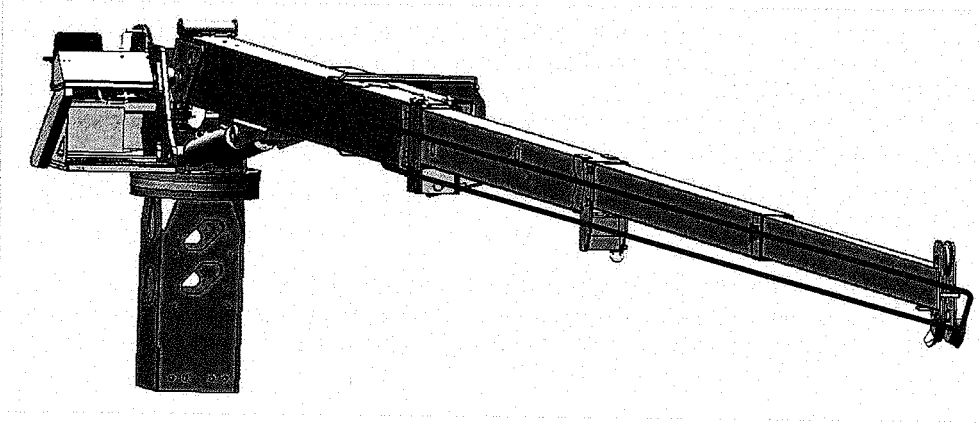

Figure 3. General Digger Derrick: Weld to Inspect – 2nd, 3rd, and 4th Booms
- ii. 2nd, 3rd, and 4th boom, both the lower right and lower left weld seams (when viewing the boom from the turntable end) – see Figures 3 and 4 for reference.